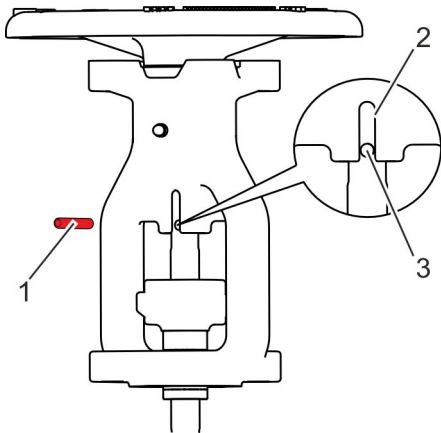

Fig. 30: Aligning the anti-twist device
- 33.▶ Ensure that the anti-twist device (Fig. 30/1) is fitted in the bore (Fig. 30/3) of the stem and can be driven in the aperture (Fig. 30/2) on the bonnet.
- 34.▶ Mount the anti-twist device (Fig. 30/1) in the stem.